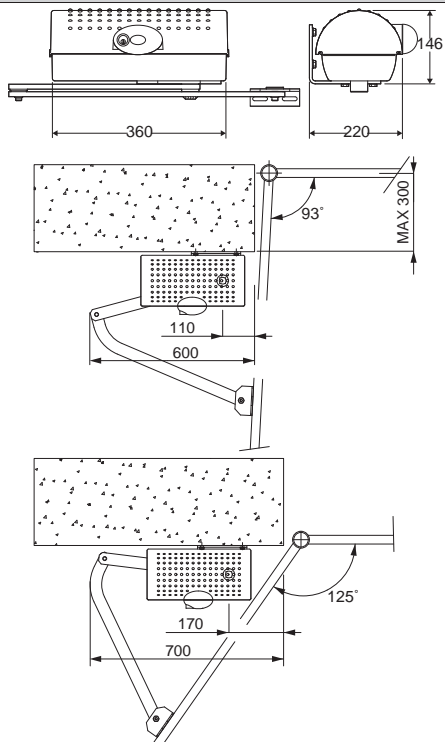
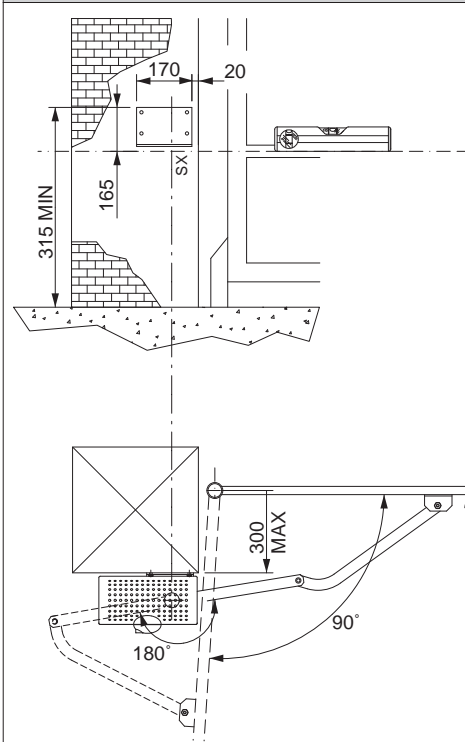

Fig. 2
Fig. 3
The fixing position must be worked out according to the leaf structure. In any case, the manoeuvring arm must push against a reinforced leaf point (fig. 2).
5) FIXING OF SUPPORTING PLATE (Fig.2)
Once the reinforcement point of the leaf has been identified with the gate closed, draw an imaginary horizontal line from the centre of the reinforcement point to the gate post (fig.2). Position the anchoring bracket according to the values given in fig. 2 for openings of up to 90° or in fig.3 for openings greater than 90° up to a maximum of 125°.